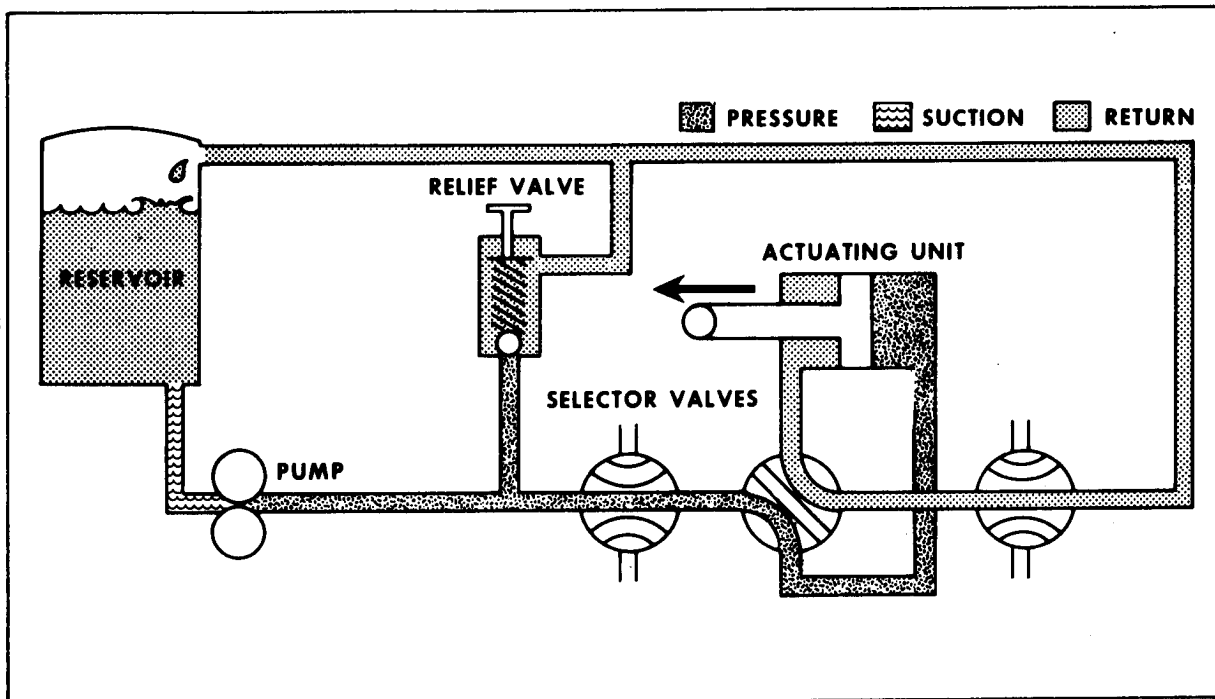

Figure 9-2. Open-center hydraulic system (valve open).
When one selector valve is in the operating (ON) position, fluid flows under pressure to the actuating unit. (See Figure 9-2.) As the actuating unit moves, it forces residual fluid from the piston through the open selector valve and back to the reservoir. At the end of the stroke of the actuating unit, fluid flow becomes blocked, and pressure increases within the system. Eventually the pressure builds up to the setting of the relief valve; then it is bypassed to the return line and back to the reservoir. This condition exists until the selector valve is returned to the neutral (OFF) position.